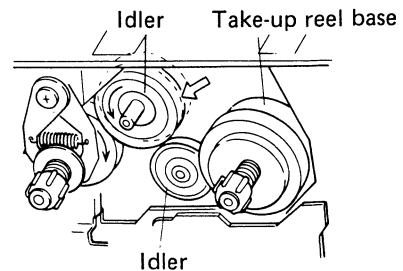

Fig. 5-8 REW Operation
3. When the REW key is pushed, rotation of idler A is transmitted directly to the supply reel base, and the tape is wound at high speed (see Fig. 5-8).